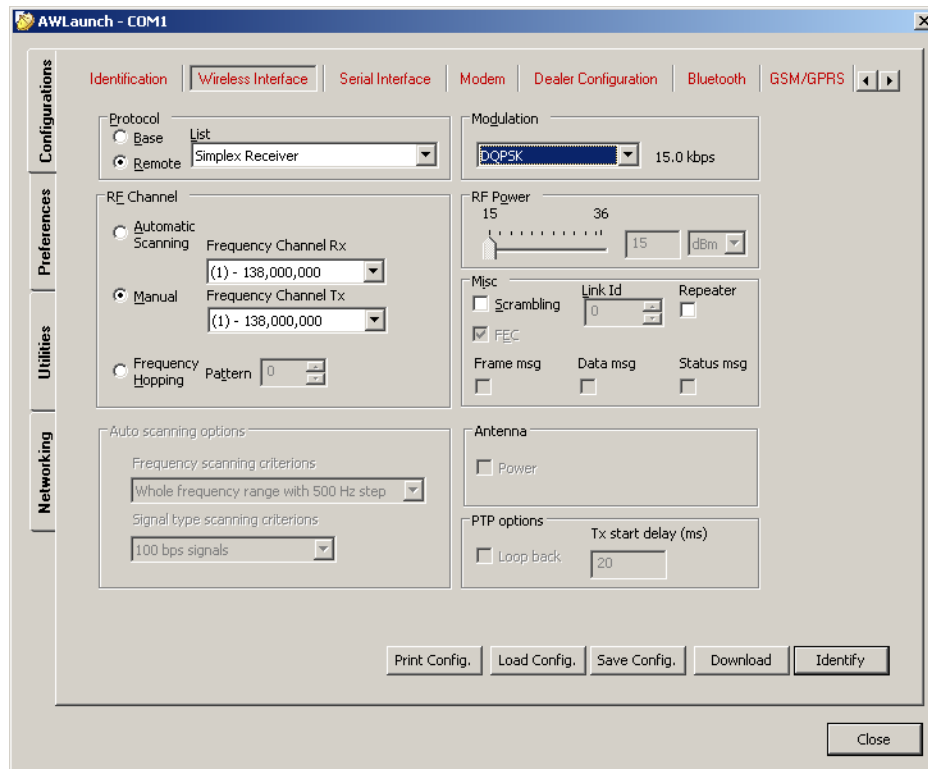

Figure 2-7. Configurations tab. Wireless subtab
6. In the *Configurations* ► *Wireless* sub tab set the parameters presented in Table 2-1 (Figure 2-7 on page 21).